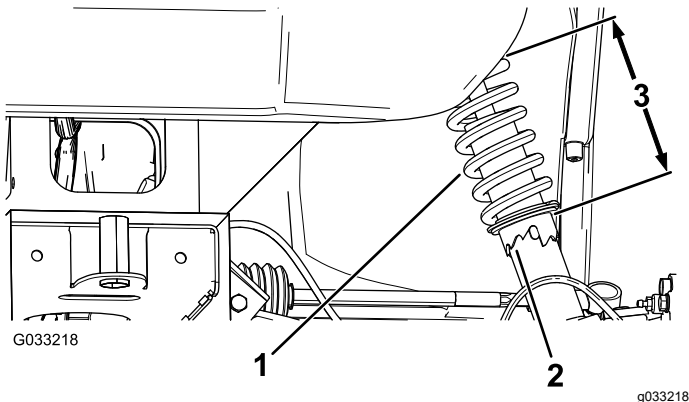

Figure 43
2. If the wheel camber is out of alignment, use the spanner wrench to rotate the collar on the shock absorber to align the wheel (Figure 43).